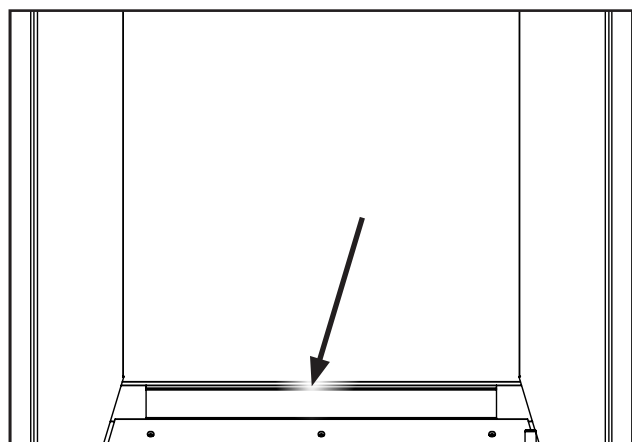

Figure 62. Rear Panel Ledge.
5. Install the rear porcelain panel first by sitting it on the ledge at the rear of the firebox (see figure 62), then follow with the left and right panels.